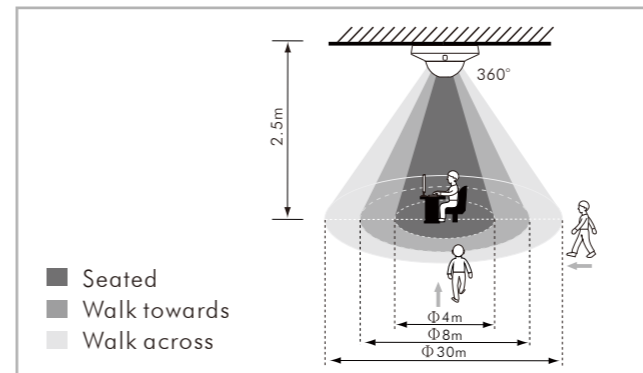

FIG.2
3.1.1 KDP-DALI-03-S can be installed at the height of 2 - 3m, it's recommended to install it at the height of 2.5m to gain the optimal detection pattern, the detection range can reach up to the diameter of 30m and 360° detection angle (See FIG.2).